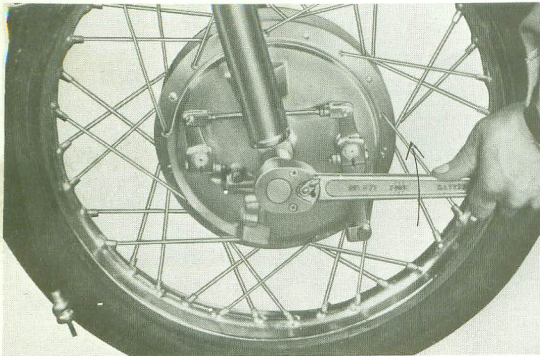

Fig. 5-1-3
- (2) Remove the front wheel shaft nut. (Fig. 5-1-3)